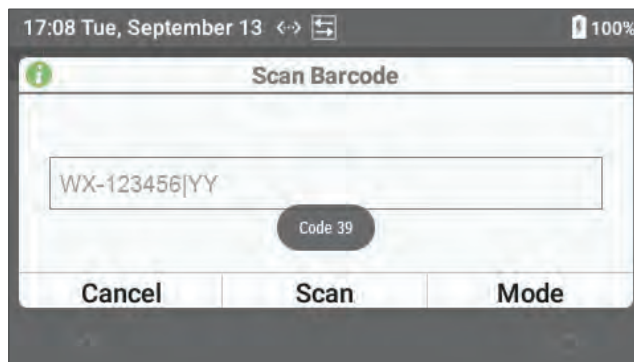

Figure 107: Example Barcode Scanner Test
- 4 The barcode string (**WX-123456|YY**) displayed in the dialog box (Figure 107) does not match the human-readable information (**123456**) on the barcode label.